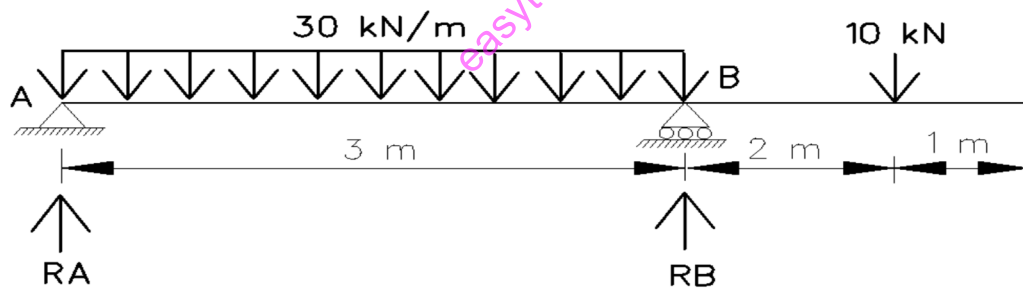

Fig 1
5. Analyze the beam in the figure 1 and determine its support reactions. Draw Shear Force and Bending Moment diagrams. (6 Marks)